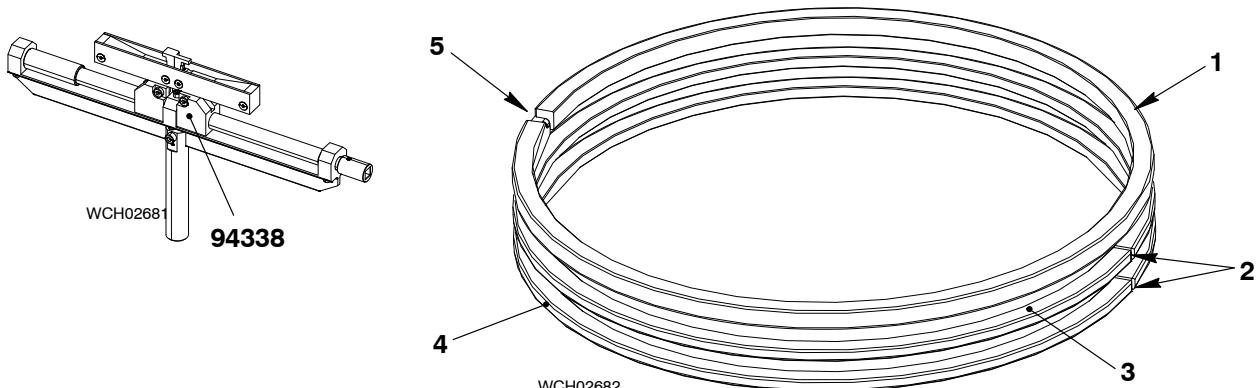

Fig. 7
- 1) Use the tool (94338) to install the bottom piston ring (4, Fig. 7) to the piston head.
- 2) Use the tool (94338) to install the middle piston ring (3) to the piston head.
- 3) Use the tool (94338) to install the top piston ring (1) to the piston head. Make sure that the ring clearance (5) is opposite the ring clearance (2) of the middle piston ring (3).